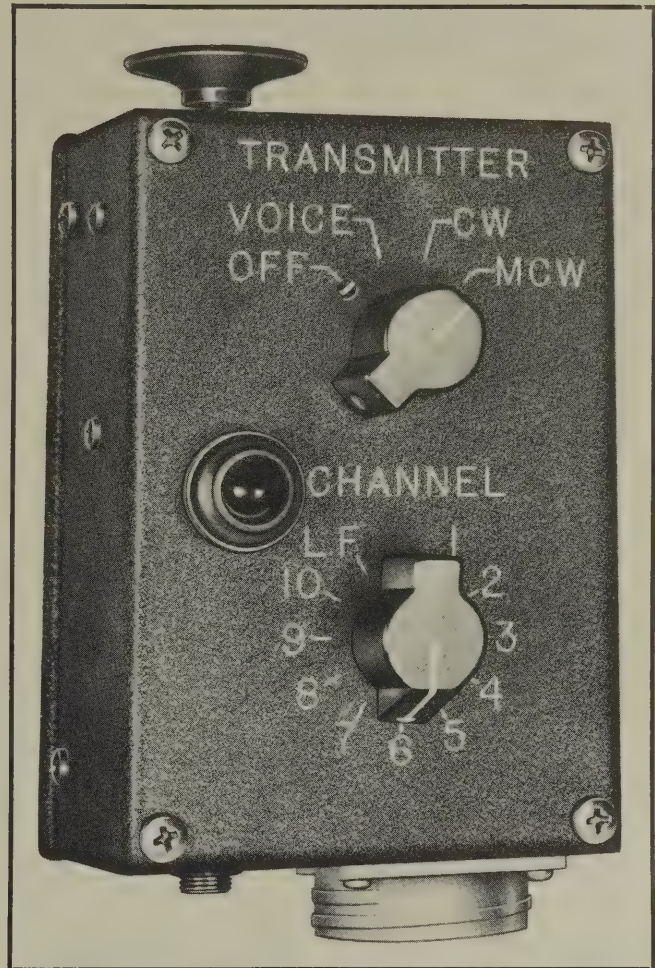

Figure 1-16—Control Unit C-87/ART-13 (Navy Type -23330)
(2) The dynamotor unit is the power source used for operation of the radio transmitter. It contains a dynamotor machine, barometric switch, control and overload relays, filters and fuse for overload protection of the plate and screen voltage supply circuits of the low power stages. A 28 volt direct current power source is required for operation of the dynamotor machine as well as for the circuits in the transmitter. Voltages as low as 24 volts d-c may be used but reduction in power output and increased time required for Autotune operation will result.
f. REMOTE CONTROL UNIT.—Control Unit C-87/ART-13 (see fig. 1-16) provides remote controls for operation of the transmitter. By means of the two knobs located on the face of the control unit, the following items may be controlled:
- (1) Turn power supply on or off.
- (2) Select type of emission (CW, MCW or VOICE).